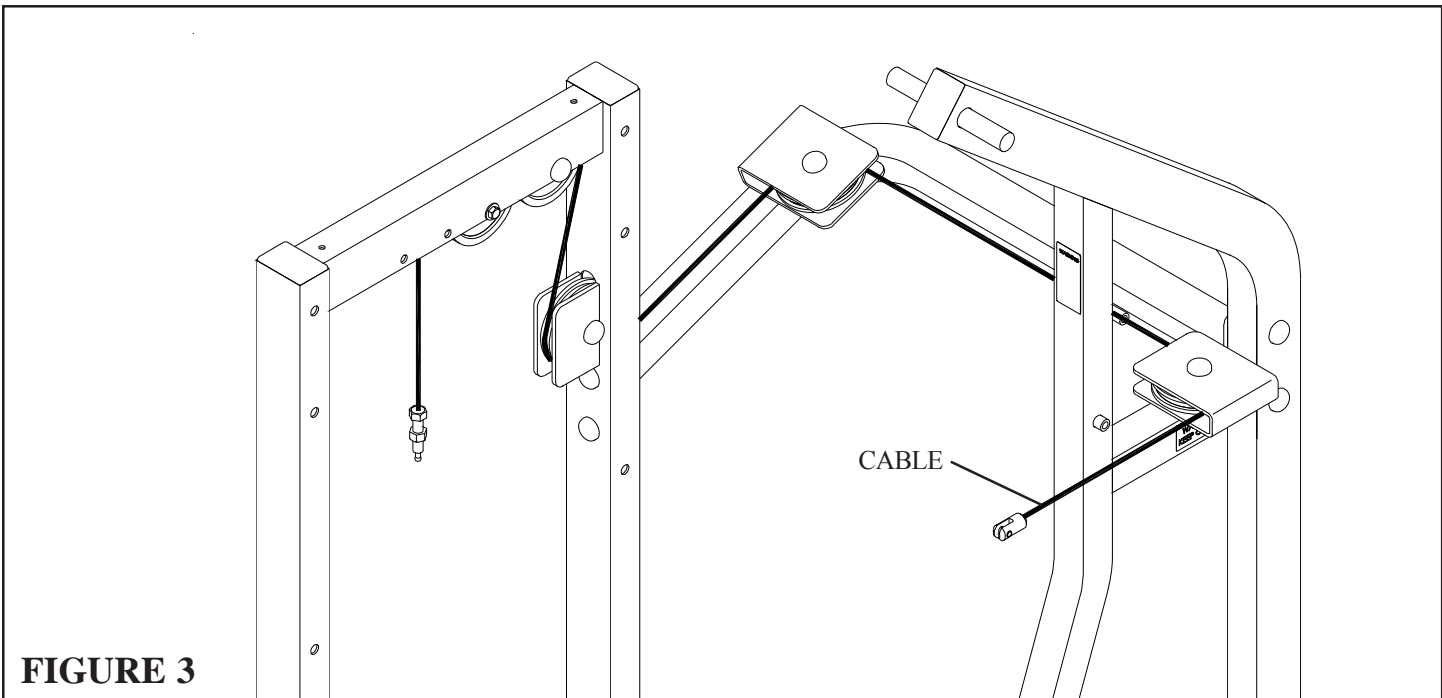

**FIGURE 2**
- **LOOSELY** assemble the CROSS BRACE (5) to the TOWER (1) and the BOOM ASSEMBLY (4) using seven RH CAPS (39), four 3/8 X 2-3/4" BOLTS (13), seven 3/8" SAE WASHERS (21), seven 3/8" RH WASHERS (22) and three 3/8" LOW HEIGHT LOCK NUTS (19) as shown in FIGURE 2.